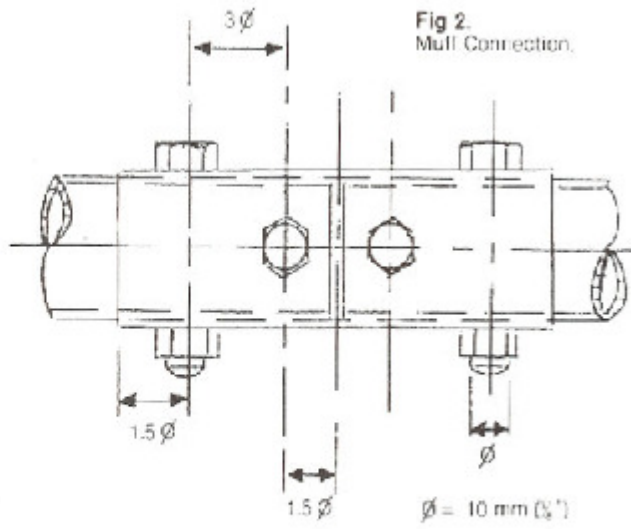

Fig 2.
- iii. Joints in the main structure are not recommended and should be avoided. If it is necessary to make a joint in the main structure then the joint shall be sleeved, especially if butt-welded, to prevent shearing of the joint. A muff connection (Fig. 2 page 32) may also be used under these conditions.
- b. The muff connection (Fig. 2).